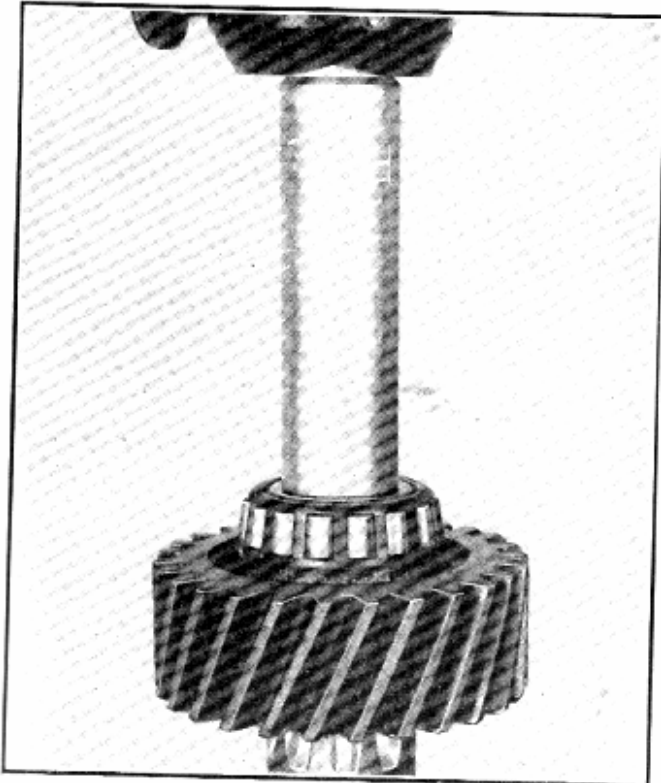

Fig. 32—Installing Driven Shaft Bearing, Tool No. J-1718
2. Install the front and rear bearings (94 and 97) on the driven shaft with the wide portion of each bearing facing towards the centre of the shaft. Press the bearings solidly onto the shaft, pressing on the inner bearing race with the aid of bearing installing tools J-1718 for the rear bearing and J-1721 for the front bearing. See Fig. 32.